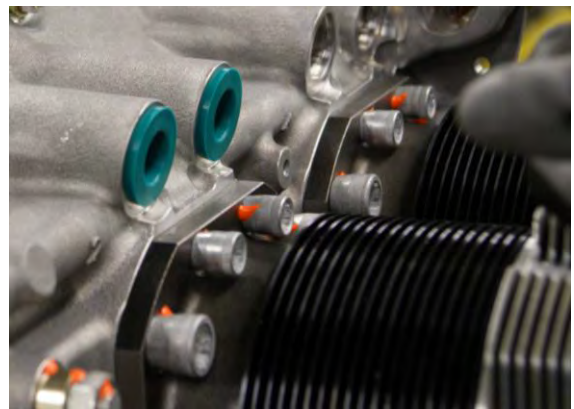

Figure 16
- Q. Remove the cylinder base hold-down barrel nuts (Figure 16).